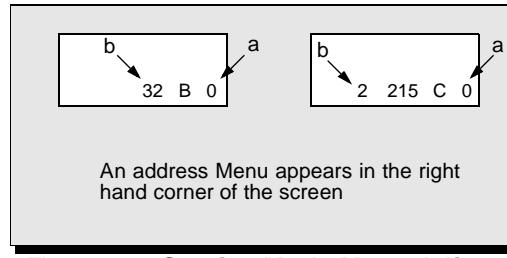

Figure 14. Service Mode Menu Adjustments.
**Note:** Only the applicable settings for the Receiver serviced will be available (See **a** in Fig. 14).
1. Press Channel Up/Down on the **Remote Control** to select one of the available Service Adjustments (**a** in Fig. 14).
**Note:** Write Down the original value set (**b** in Fig. 14) for each address before modifying anything. It is easy to erroneously adjust the wrong item.
2. Press Volume Up/Down on the **Remote Control** to adjust the level of the selected Service Adjustment (**b** in Fig. 14).